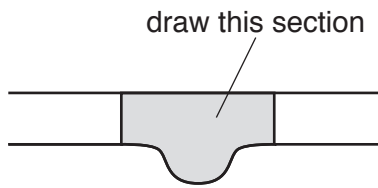

Fig. 2.2
- (iii) Use the measurements from **(a)(i)** to help you draw a large plan diagram of the section of the leaf shown by the shaded area in Fig. 2.2.